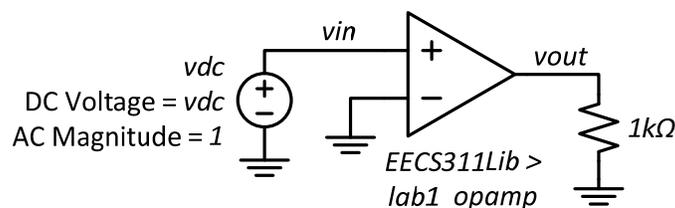

Figure 1. Cadence schematic for exercises P1.1-3.
prelab and build the schematic shown in Figure 1. Make sure you *Check and Save* your schematic.
- P1.2 Launch Analog Environment and perform a DC sweep of the variable vdc (DC input voltage in Figure 1) from $-5mV$ to $+5mV$ in 10k steps. Plot the output voltage as a function of the swept input voltage. Determine the DC offset voltage of the amplifier by finding the value of V_{in} that results in $V_{OUT} = 0V$. Determine the DC open-loop gain of the amplifier A_0 by measuring the slope of the output voltage, dV_{OUT}/dV_{IN} , around the point $V_{OUT} = 0V$.